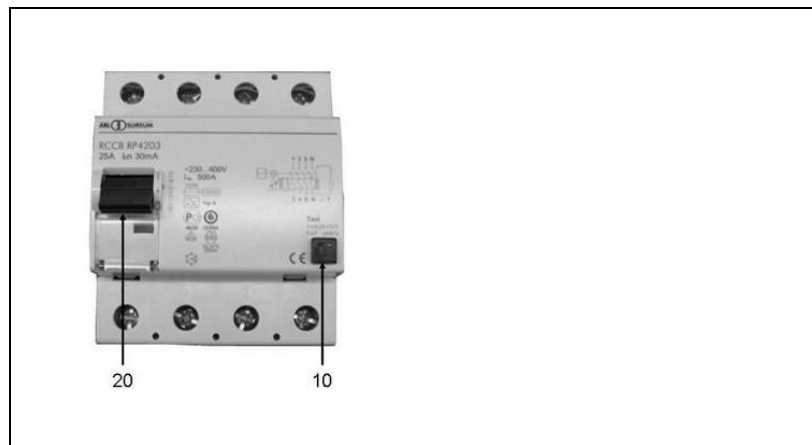

Fig. 4.8: FI protection switch
2. Additionally, the user must check after every putting into operation by activating the test button (see below Figure 4.8-(10)) of the residual current protection device (RCD), to check the mechanical function of the triggering
2. Move the protection switch (see Figure 4.8) into Pos. 1.
3. Activate the test switch (see Figure 4.8-(10)).
- ✓ The switch position displays the result (see Figure 4.8-(20)):